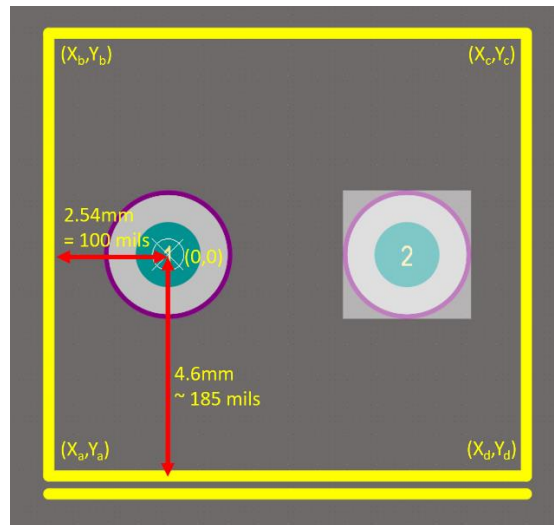

Figure 9: Defining occupied area of the 2pin terminal footprint
- Draw an artwork (silkscreen) representing the occupied area of the component. Make sure the **Top overlay** layer is selected when drawing an artwork (see Figure 9)